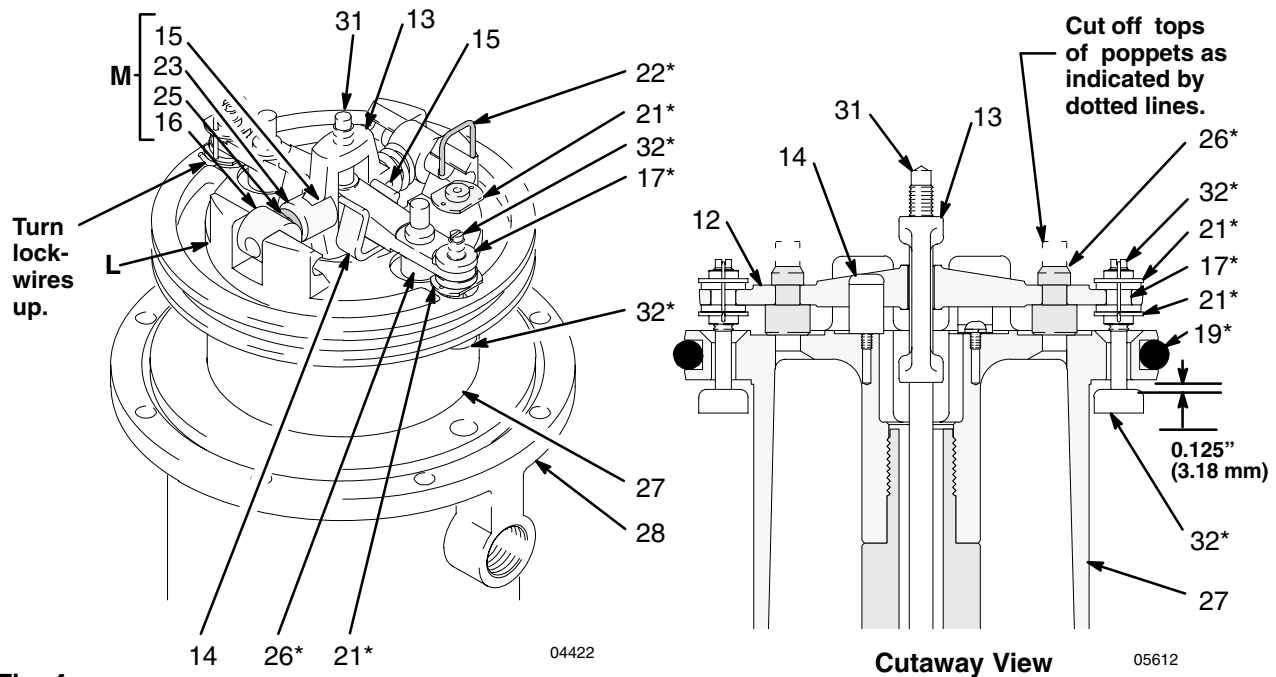

Fig. 4
10. Pull the piston assembly (27) from the air motor base (28), and set it aside.
11. Remove the throat bearing (36) with a 1 5/8-in. socket, remove the seal (2*), and wipe the seat clean with a cloth.
14. Use a screwdriver to push down on the trip rod yoke (13), and snap the toggles down. See Fig. 4.
15. *In this step, while you are prying with the screwdriver with one hand, cover the toggle assemblies with your other hand so as to catch the spring-loaded toggle assemblies when they snap out of the lugs.* Place the tip of a screwdriver into the piston between the piston lugs (L) below the pivot pins (16) on the toggles, pry up with the screwdriver handle to compress the springs on the toggle assembly (M) up and away from the piston lugs, and remove the parts. See Fig. 4.
16. Straighten the lockwires (22*), and remove them from the valve nuts (21*). Screw the top nuts off. Remove the trip rod yoke (13), actuator (12), and trip rod (31). Unscrew the bottom valve nuts (21*), and remove the poppets inlet valve poppets (32*). Make sure the valve bar spring clips (14) are not worn or damaged and that they properly guide the actuator.
17. Remove the exhaust valve poppets (26) by cutting them with a side cutter, then pull them out of the actuator (12).
19. Check the surfaces of the air motor piston (27), displacement rod (29), and the wall of the air motor cylinder (30) for scoring or scratches. Scored or scratched surfaces cause premature packing wear and leaking.
(M in Fig. 4) up or down.
1. Place the piston rod (29) flats in the vise with the air motor up.
2. Pull the exhaust valve poppets (26*) into the valve actuator (12), and clip off the top parts of the poppets (shown with dotted lines in the **Cutaway View** in Fig. 4).
3. Install the lower valve grommets (17*) in the actuator (12), place the inlet valve poppets (32*) in the piston, and thread the bottom valve nuts (21*) onto the inlet valve poppets until there are a few threads left before the threads run out.
4. Grease heavily and place the trip rod (31) in the piston, place the actuator (12) in the yoke (13), and place the well-greased actuator/yoke assembly in the piston, with the trip rod going through the center holes of the actuator and yoke and the inlet valve poppets (32*) going through the lower valve grommets (17*).
6. Install the toggle pins (15) in the yoke (13), place the toggle arm (23) ends of the toggle assembly (M) onto the toggle pins, and snap the pivot pin (16) ends of the toggle assembly into the lugs (L).
7. Measuring with the gauge (Part No.171818), create 0.125-in. (3.18 mm) of clearance between the inlet valve poppets (32*) and the piston seat when the inlet valve is open. See the **Cutaway View** Fig. 4.
Never re-use the old lock wires. They will get brittle and break easily from too much bending. When you install new lock wires, do not bend them too severely, or they may break. See Fig. 4.